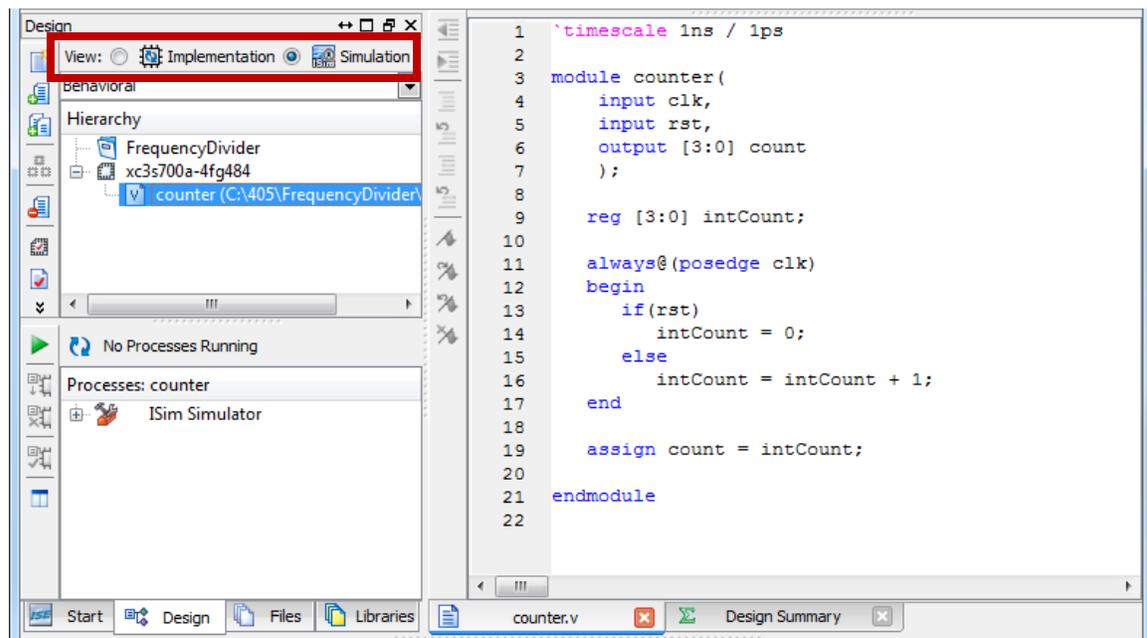

Figure 4
1. In the project navigator to the left, click on **Design** tab. Then click on your Verilog file. Change to simulation mode by selecting **Simulation** radio button as shown in Figure 4.